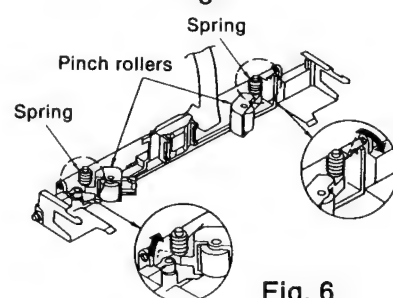

Fig. 6
5. Remove 2 springs in order to remove the pinch roller. (See Fig. 6.)